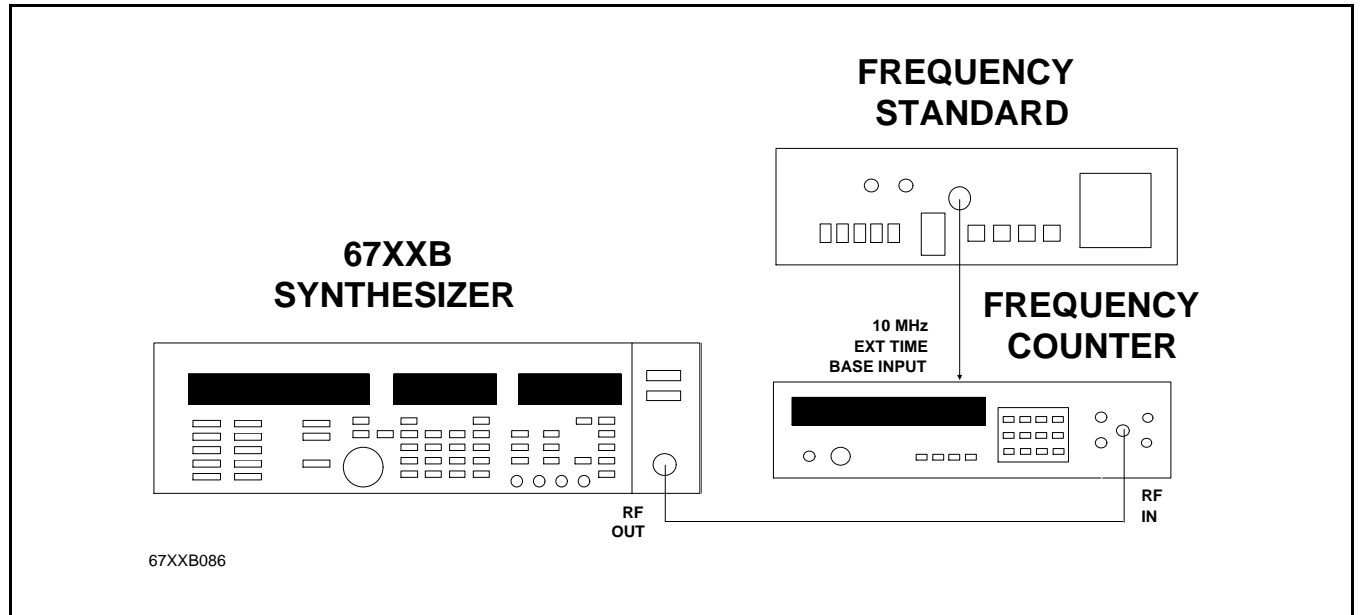

Figure 3-5. Test Equipment Setup for 10 MHz Reference Oscillator Calibration
1. Connect the equipment, shown in Figure 3-5, as follows: